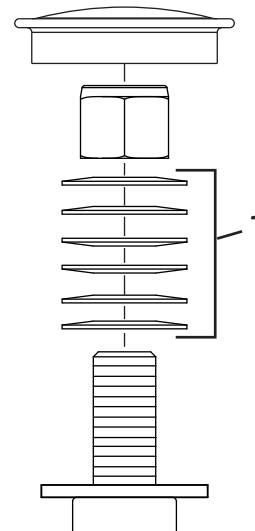

Figure 55
3. Remove the dust cap from the caster and tighten the locknut (Figure 55).
4. Tighten the locknut until the spring washers are flat, and then back off a 1/4 turn to properly set the preload on the bearings (Figure 55).
Important: Make sure that the spring washers are installed correctly as shown in Figure 55.
5. Install the dust cap (Figure 55).